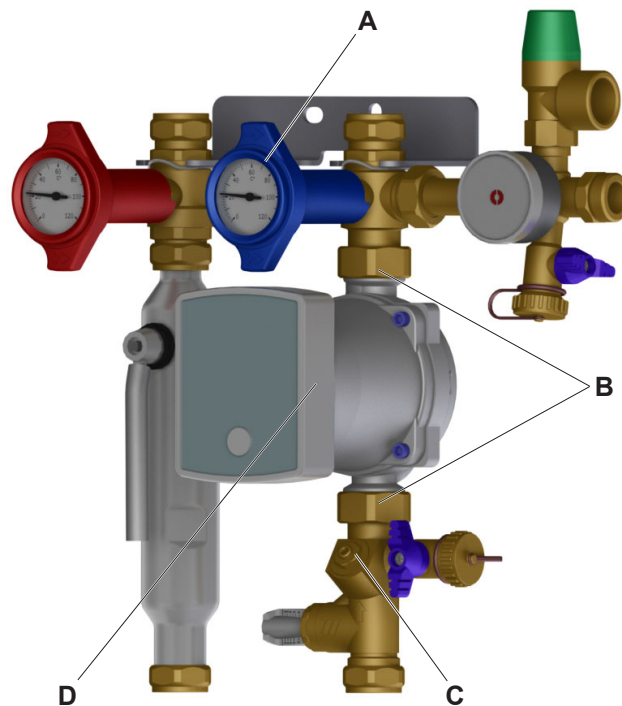

Fig. 11: Dismantle circulation pump solar circuit (represented type 8130 with venting pipe and regulator)
- Close the regulator/gate valve (Pos. C, see Fig. 11 on page 17).
- Loosen the wiring of the solar pump (Pos. D, see Fig. 11 on page 17).
- **Slowly** open the return ball valve (multifunction armature, Pos. A, see Fig. 11 on page 17) by rotating the thermometer handle 90 degree in the clockwise direction till the stop (see „Thermometer handle settings“ on page 14).
- **Slowly** open the regulator/gate valve (Pos. C, see Fig. 11 on page 17).
- Adjust the flow rate with Allen wrench SW 4 (Pos. C, see Fig. 11 on page 17).